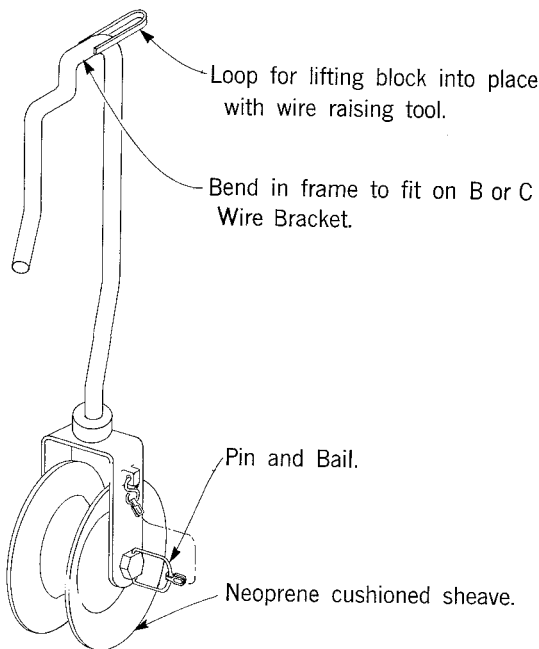
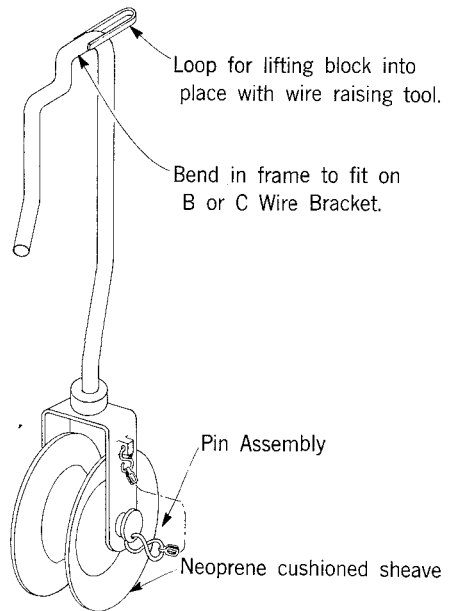
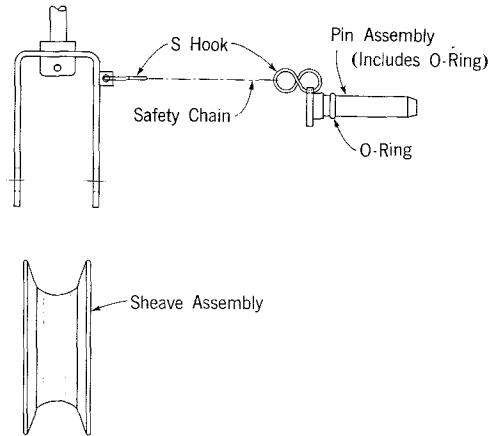

Fig. 1
Fig. 2
Fig. 5
2.02 Fig. 1 illustrates the block in its original design where the steel pin axle has a hex head and a wire bail for pulling it out. Fig. 2 illustrates the revised block where the steel pin axle has an enlarged round head.
3.01 The first design of the B Wire Block using the pin and bail (see Fig. 1) can be modified to the present design (see Fig. 2) by replacing the pin and bail with a pin assembly and S Hook. The replacement parts shown in Fig. 5 can be ordered separately.